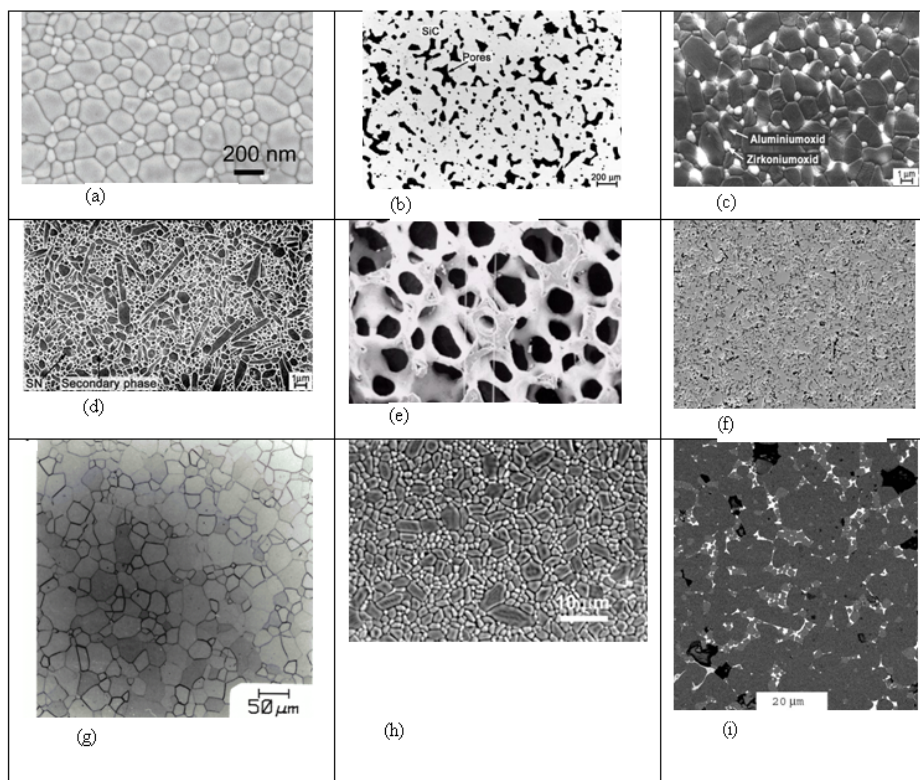

Figure 1: Various microstructures of ceramic materials
1. [a] Figure 1 shows various microstructures of ceramic materials. Distinguish with reasons which sintering process was involved to form each of this microstructure. Based on their respective microstructure and using a proper explanation, suggest the possible application(s) of each this ceramic material.